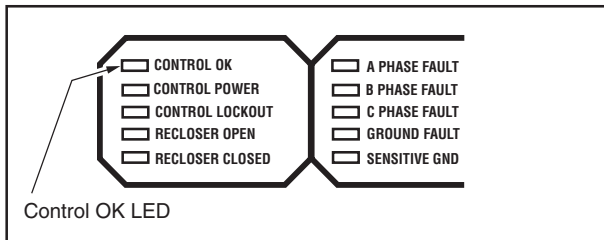

Figure 39. Control OK LED
- Verify the Control OK LED is illuminated on the control operator panel (**Figure 39**). This indicates the presence of AC power.